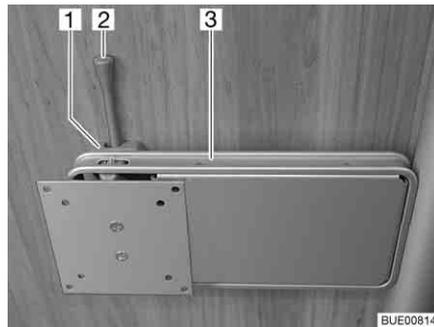

Fig. 88 Holder on the column
- Push the release lever (Fig. 88,2) to the side and turn the holder (Fig. 88,3) with the flat screen to the desired position.
- Turn flat screen back until the holder (Fig. 88,3) engages in the lock (Fig. 88,1).